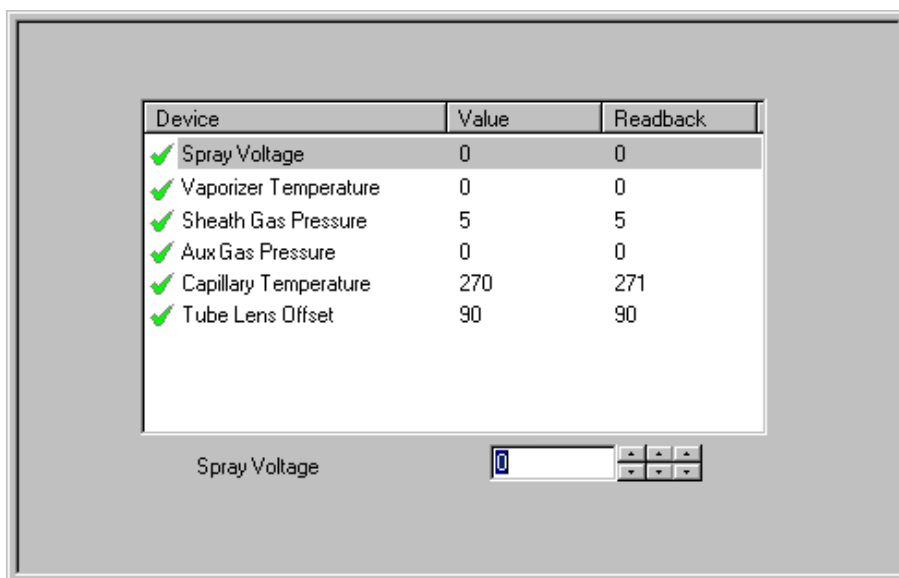

Figure 3-8. Optimize Compound Dependent Devices view
- i. Click on the Optimize Compound Dependent Devices button to display the Optimize Compound Dependent Devices view in the top right corner of the workspace. See Figure 3-8.